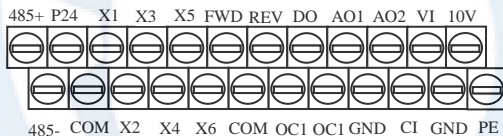

Fig.3-7 CN2 terminal order
(2) Control Circuit CN2 terminal shown as Fig.3-7